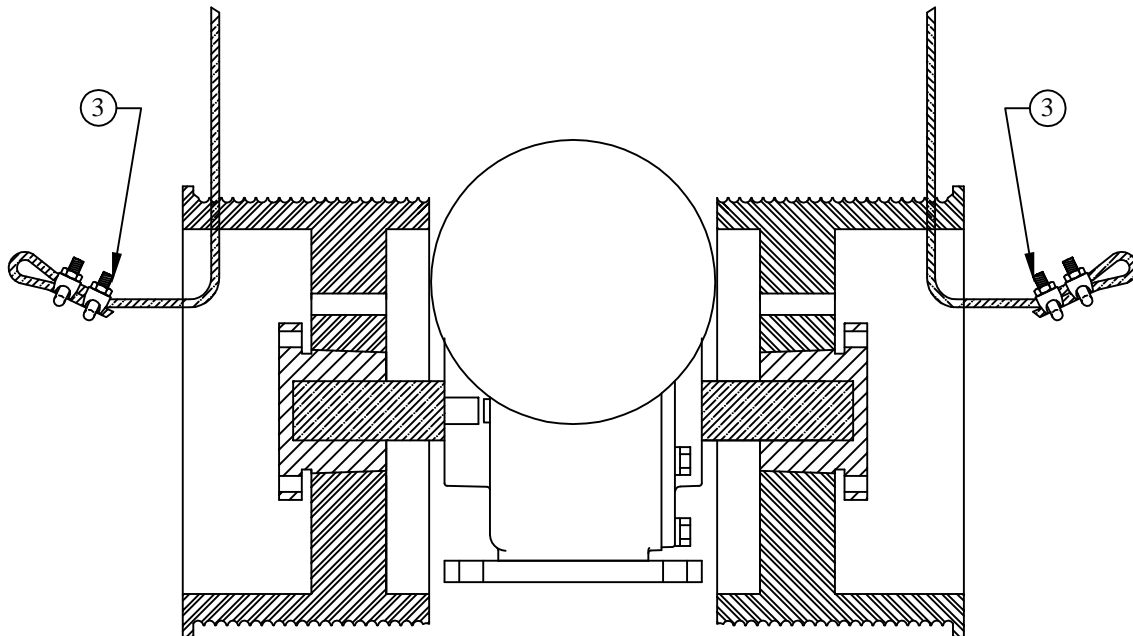

FIG 8-1
- 8a.** Insert one end of the hoisting cable through the face of the drum. Hole in face of drum is drilled at factory. Then thread hoist cable through the hub of the drum. Terminate end of cable with cable clips supplied. **See Fig. 8-1**